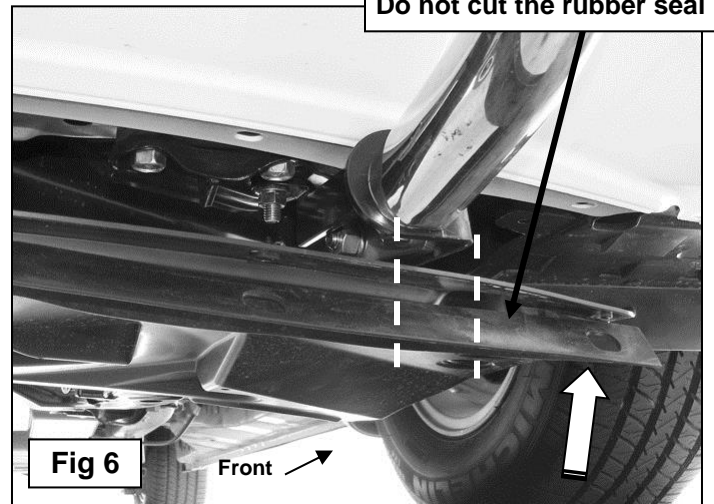

Fig 6
7. Remove the City Bar, (leave all mounting brackets tightened in place). Hold the plastic splash guard up into position and mark the location for cutting of the splash guard to clear the Mounting Brackets, **(Figure 6)**. **IMPORTANT:** To maintain the integrity of the plastic splash guard, cut only the plastic material that is necessary to clear the Mounting Brackets, **(Figure 7)**. **NOTE:** Do not cut the rubber seal, **(Figure 6)**. Once the plastic splash guard is cut and trimmed for fit, reinstall the splash guard using the factory hardware.